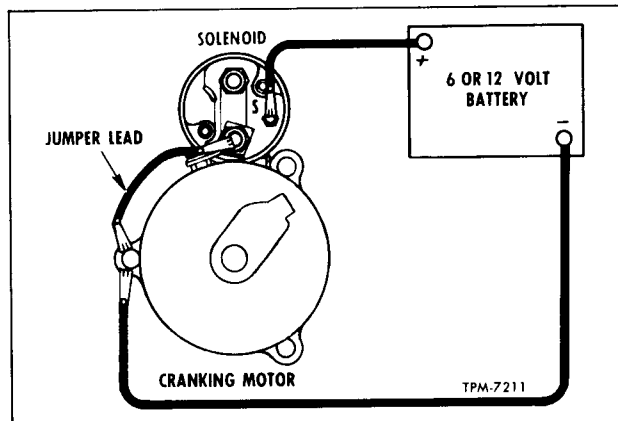

Figure 9—Test Hook-up For Checking Pinion Clearance
1. To check the pinion clearance, connect a 6-volt battery from solenoid switch terminal to starter frame (fig. 9). If solenoid does not operate, use a 12-volt battery. To prevent starter from motoring, connect a heavy jumper from solenoid "MOTOR" terminal to starter frame (fig. 9).